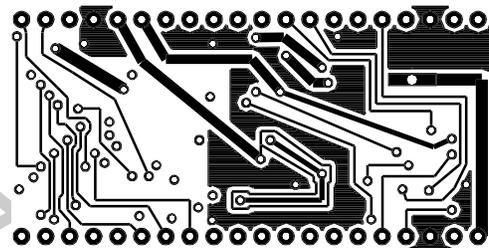

Figure 6. Shield Layer (Not to scale).
- The layer below called “shield” is shown in figure 6.